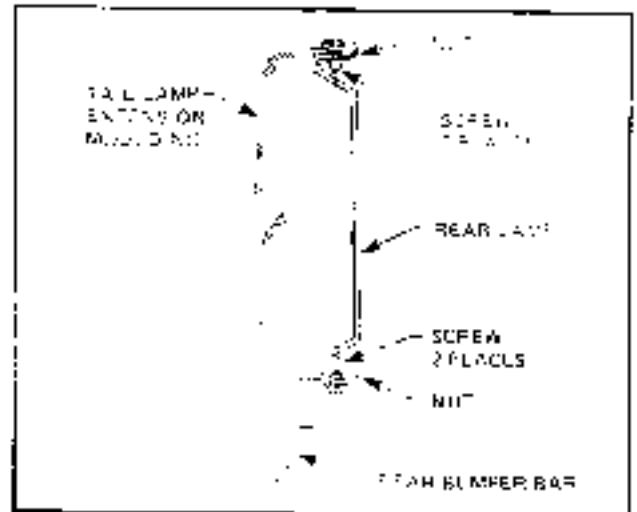

Figure 12B-5
3. From inside the boot, remove the two nuts securing the tail lamp extension moulding mounting brackets to the rear end panel, refer Fig 12B-6. Remove extension.